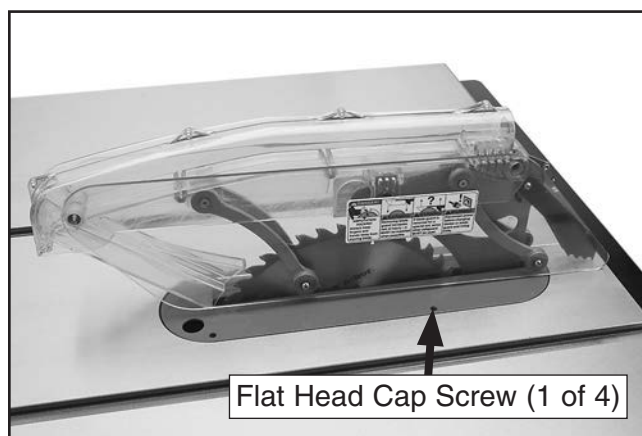

Figure 48. Blade guard installed.
The blade guard, when properly installed, should be set up similarly to **Figure 48**. It should pivot freely up and down and return to the table in the resting position. It should also swing up high enough to accommodate the workpiece.
6. Adjust flat head cap screws (see **Figure 48**) to make sure table insert is flush with table (use a straightedge as a guide).